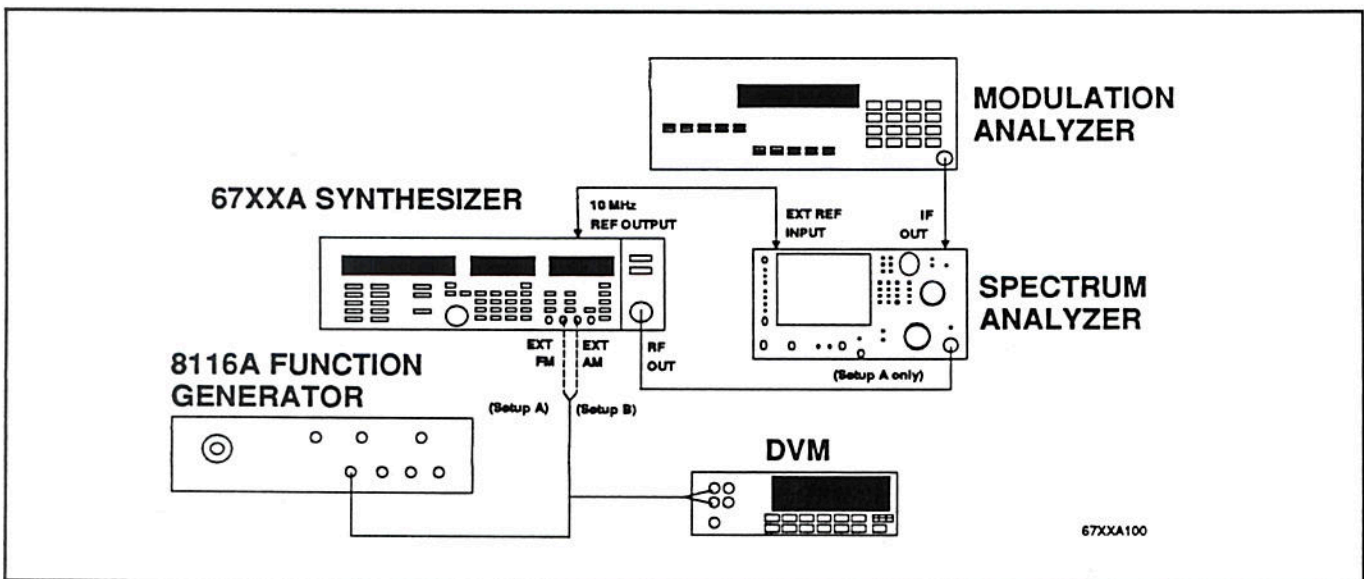

Figure 2-9. Equipment Setup for FM Modulation Tests
1. Connect the equipment as shown in Figure 2-9.